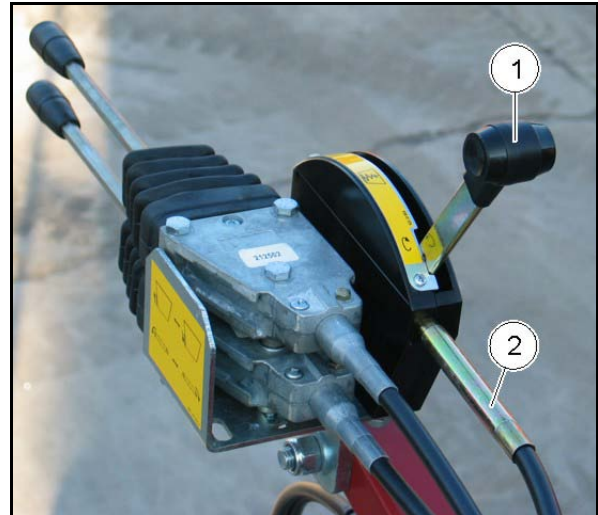

Fig. 19
- the Bowden cable lever (Fig. 19/1) in case of mechanical remote control via the Bowden cable (Fig. 19/2),
For changing the gear level, swivel the Bowden cable lever (Fig. 19/1) into the required position. Beware of the fact that the Bowden cable lever (Fig. 19/1) engages in the selected position at the notch after changing gear.